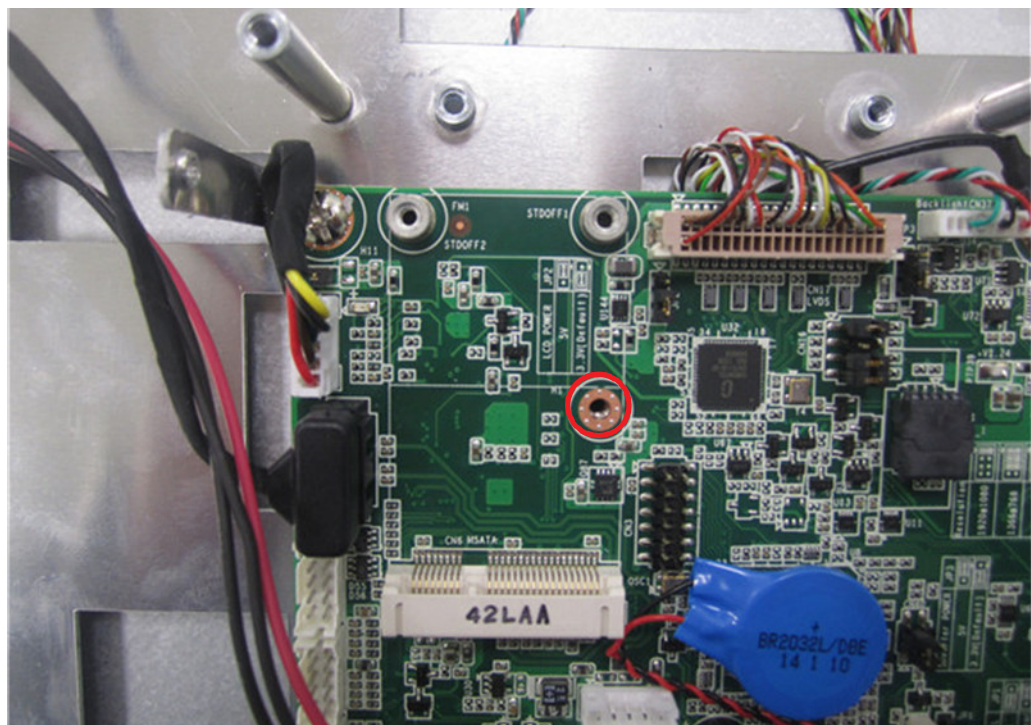
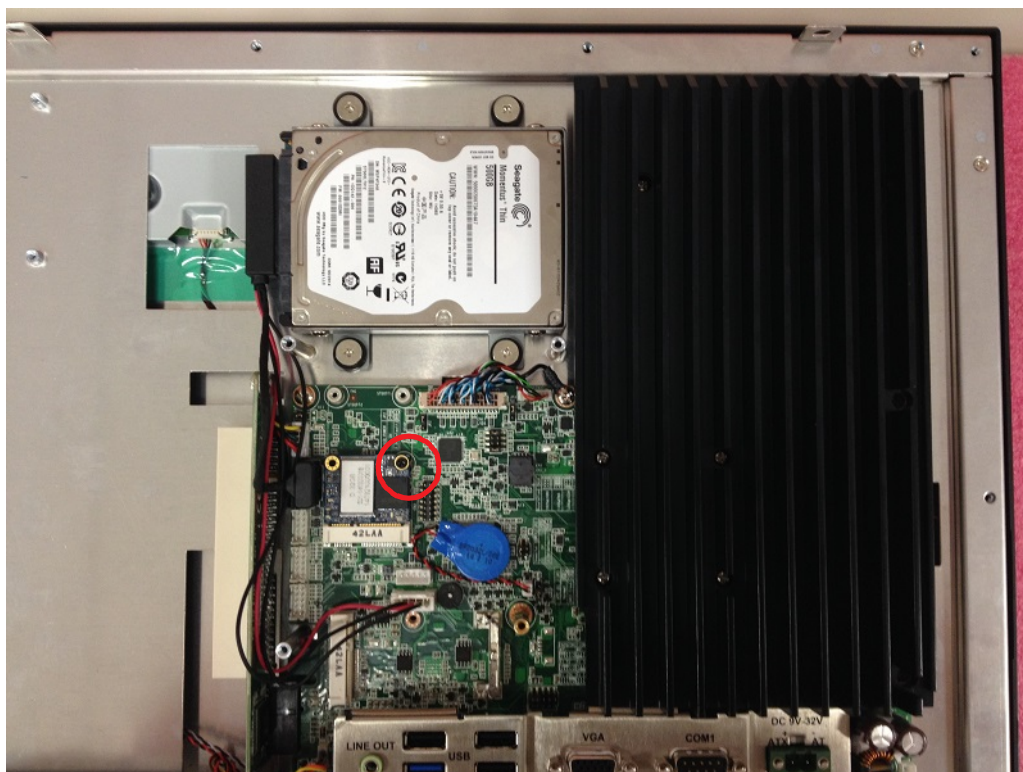

Figure 2.16
Figure 2.17
3. To install a half-size mini SATA card, insert the mini SATA card into the correct mainboard slot, and affix it in place using a copper cylinder screw (see Fig. 2.16) provided in the accessory box. Then retrieve the thermal pad provided in the accessory box and install it atop the mini SATA card (see Figs. 2.17 and 2.18).